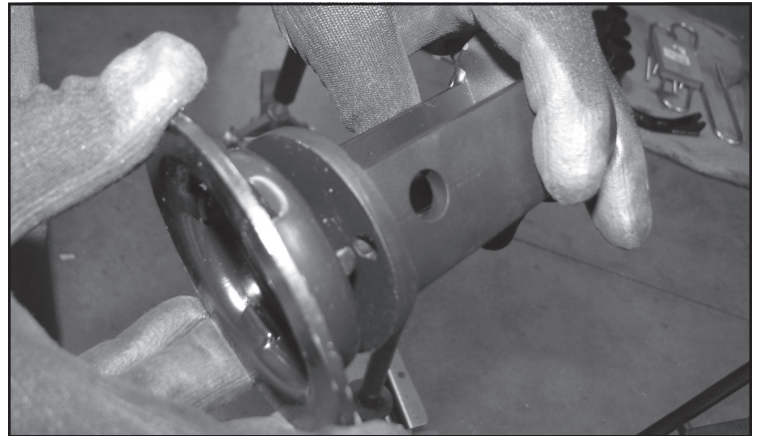

FIGURE 8 - STEP 13
13. Install FT30654 (Bump Stop Extension) onto the factory cup using the supplied 1/2" x 1-1/4" hardware and set aside. Torque to 127 ft-lbs. **SEE FIGURE 8**